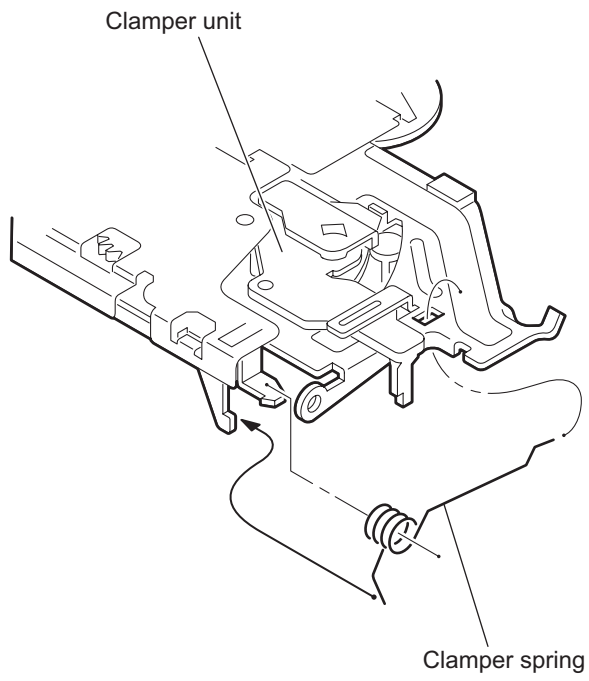

Fig.8
- (1) Attach the clamber spring to the clamber unit. (See Fig.8.)
When reattaching, temporarily hook the end of the clamber spring as shown in the figure to make the work easy. (See Fig.8.)